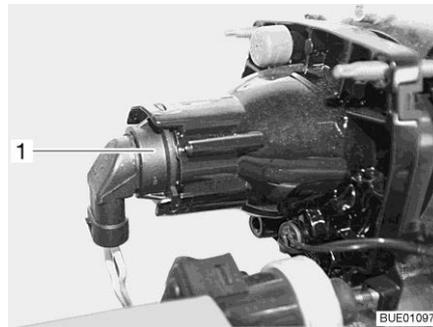

Fig. 289 Low beam/main beam/parking light
- Put your hand behind the lamp holder (Fig. 289,1).